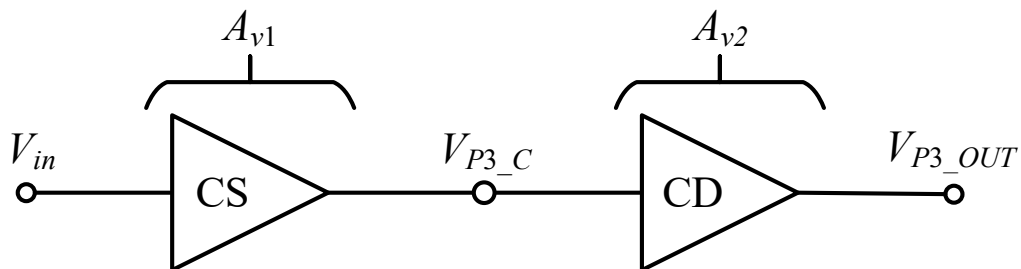

Fig. 3: Functional block diagram of a two-stage MOSFET amplifier.
Based on the characteristics summarized in Table 5.4 in the textbook, the common-source (CS) and common-drain (CD) configurations are selected for the first and second stages, respectively, as shown in Fig. 3.